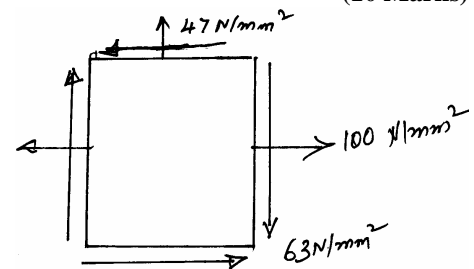

Fig.Q3(c)
- c. A rectangular block of material is subjected to a tensile stress of 110 N/mm^2 on one plane and tensile stress of 47 N/mm^2 on the plane at right angles to the former as shown in Fig.Q3(c). Each of the above stresses is accompanied by a shear stress of 63 N/mm^2 . Determine the direction and magnitude of each principal stress and magnitude of maximum shear stress. Sketch the planes and mark the stresses on the planes. (10 Marks)